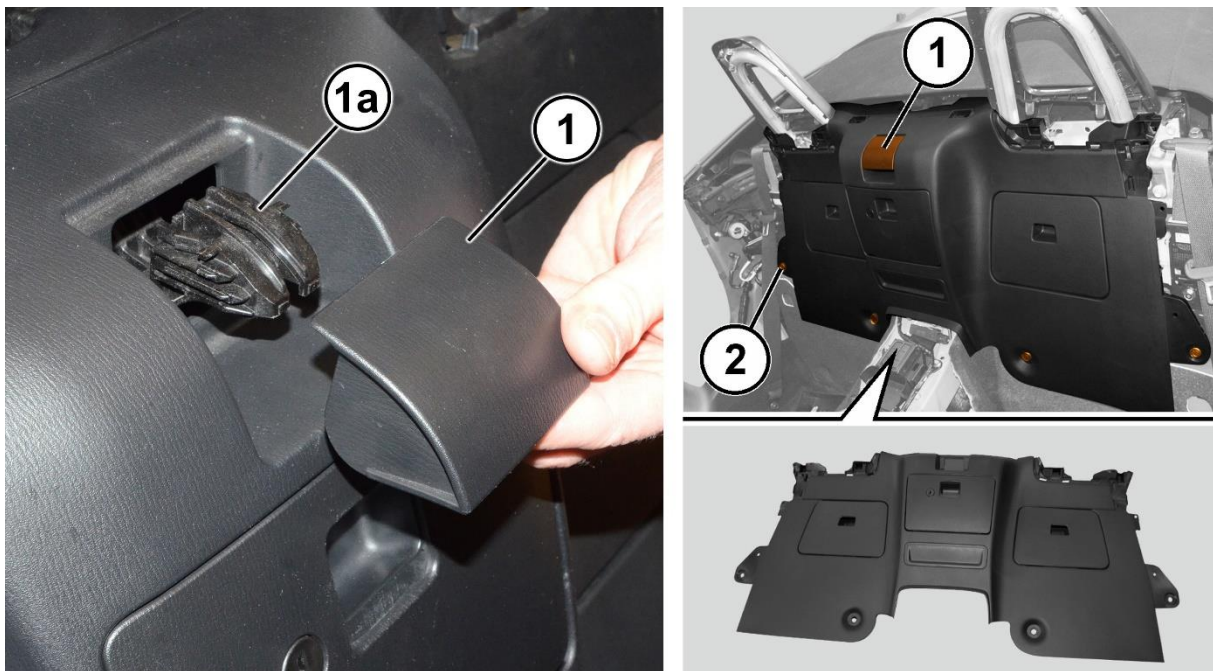

Figure 15 – Convertible Top Handle / Rollbar Trim and Storage Bins Panel
29. Remove the convertible top release lever handle (1) from the release lever (1a) (Figure 15).
30. Remove the four fasteners (2) from the rollbar trim and storage bins panel (Figure 15).
31. Disengage the retaining clips then remove the rollbar trim and storage bins panel from the vehicle (Figure 15).